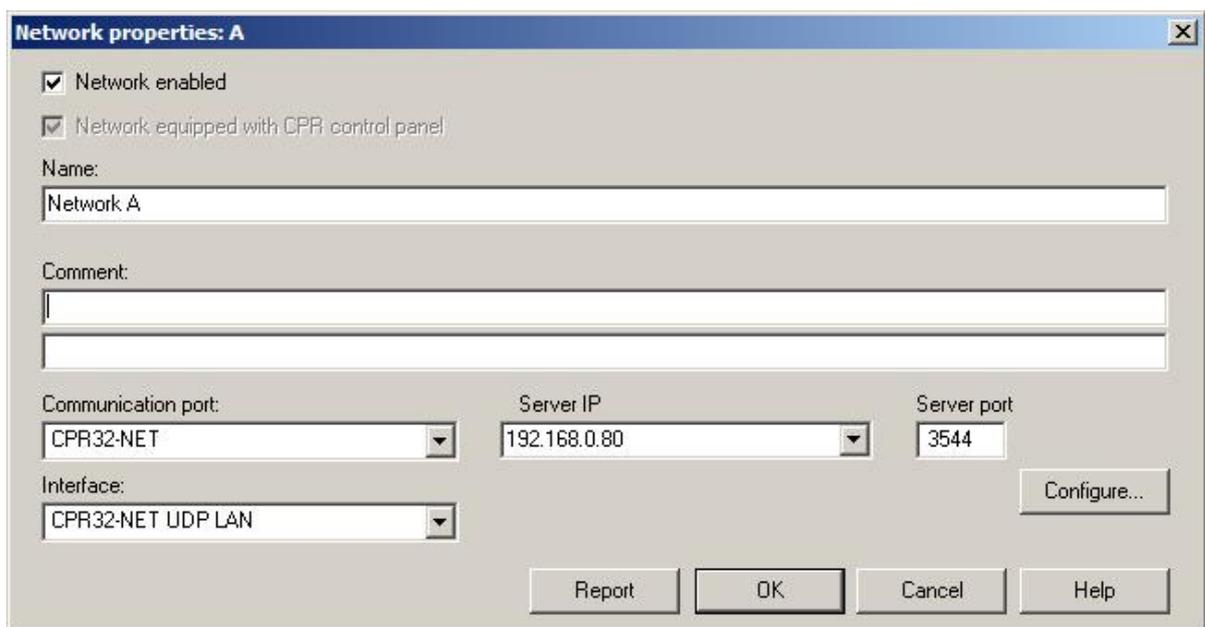

Fig. 4 Configuration of communication channel
2. In the opened window (see fig. 4), select the option **Communication port** and then select **CPR32-NET**.
Note: In case of operation in the same LAN subnet, IP address and port of CPR32-NET can be automatically detected by PR Master software in window shown in fig. 4.